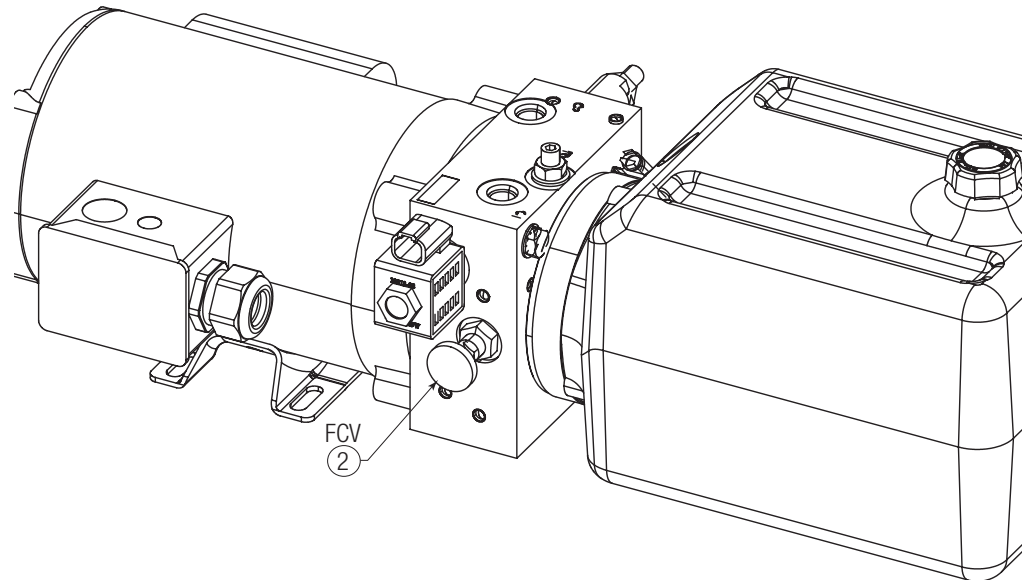

Figure 28
The deck lower speed is hydraulically-controlled by the Flow Control Valve (2). The location of the FCV on the power unit manifold is shown in **Figure 28**. The valve allows flow into the deck cylinder to move unrestricted then throttles flow out of the deck cylinder according to the valve setting. This valve is factory set to N turns out (counter-clockwise) from the fully in position.